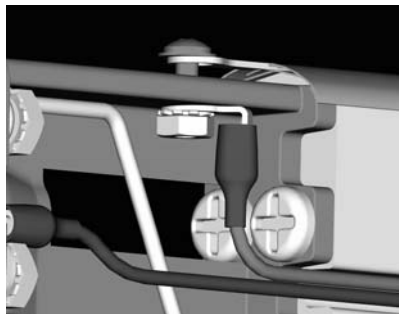

Figure 2 - Screw Style Seal Wire Attachment
3. Fasten either end of the heater wire to the black plastic holder as shown in figure 2. Position the ring terminal so it lies flat on the plastic. Orient the wire and the terminal so they are running in the same direction. Hold the nut with the needle nose pliers and tightened the screw firmly.